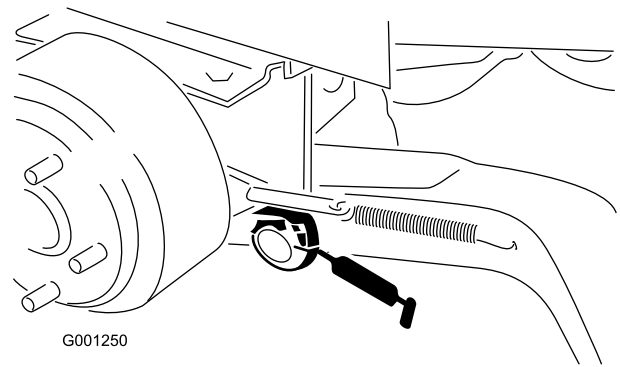

Figure 40
- Lift-arm pivot bushings (Figure 40)